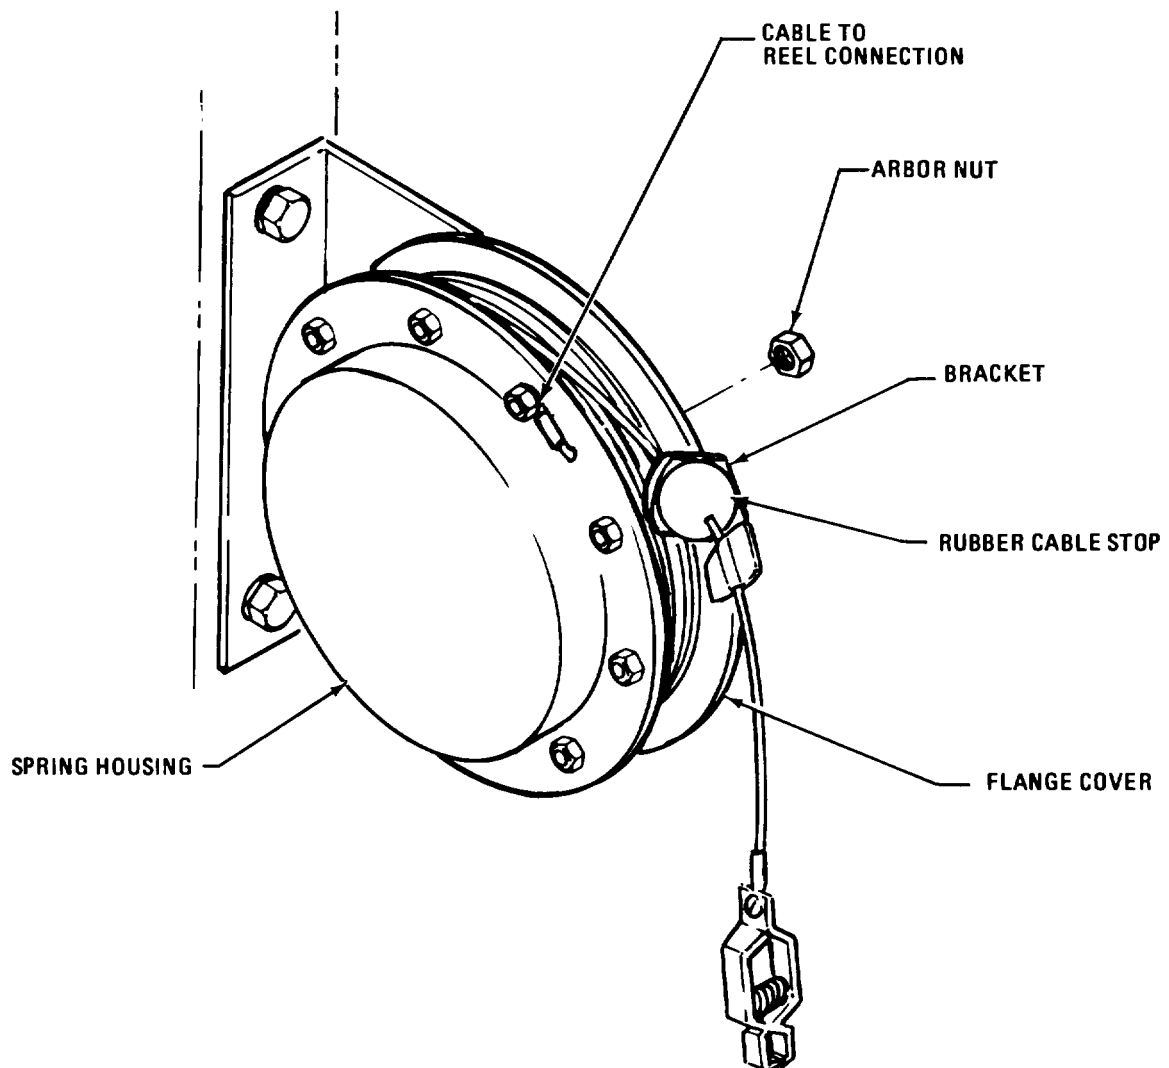

Figure 3-4. Static Discharge Reel.
a. The Static Discharge Reel (figure 3-4) houses the grounding cable.
(1) Inspect the static discharge reel by pulling the cable out completely and check for broken or frayed cable.
(2) If cable is defective, notify Organizational Maintenance for repair or replacement.